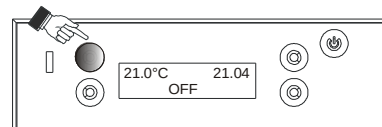

Figure 14 - "Cleaning" function
- **Enable the "CLEANING"** function – with the boiler switched off, press the control panel button shown in figure 14 for 2 seconds. This procedure starts the smoke blower on the maximum setting to expel the soot that becomes dislodged when the exchanger is cleaned.
- **Disable the "CLEANING" function** by pressing the control panel button shown in figure 14 again.